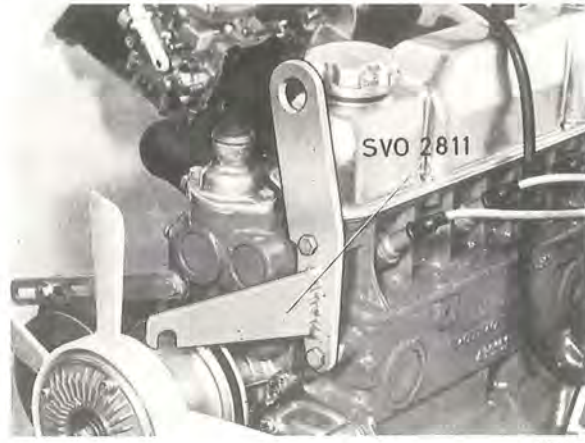

Fig. 2-9. Lifting lug SVO 2811 on engine front end
10. Fit lifting arm SVO 2811 to the front end of the engine as shown in Fig. 2-9 and lifting arm SVO 2812 on the engine rear end as shown in Fig. 2-10. Jack up the vehicle with four blocks.